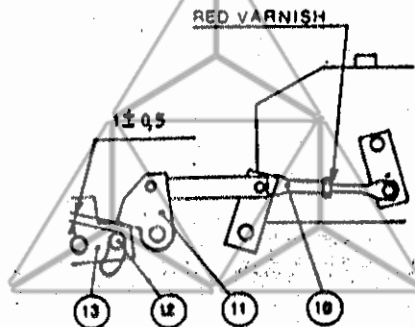

Fig. 12
a. Tripping (Fig. 12)
- 1) Adjustment. With breaker in closed position and release reset, back off red nut until nearly all threads are exposed. Tighten same nut until distance between tripping striker (11) and lug (12) of the latch (13) shown in the normal position is $1 \pm 0.5 \text{ mm}$ (0.039 ± 0.020 inches).